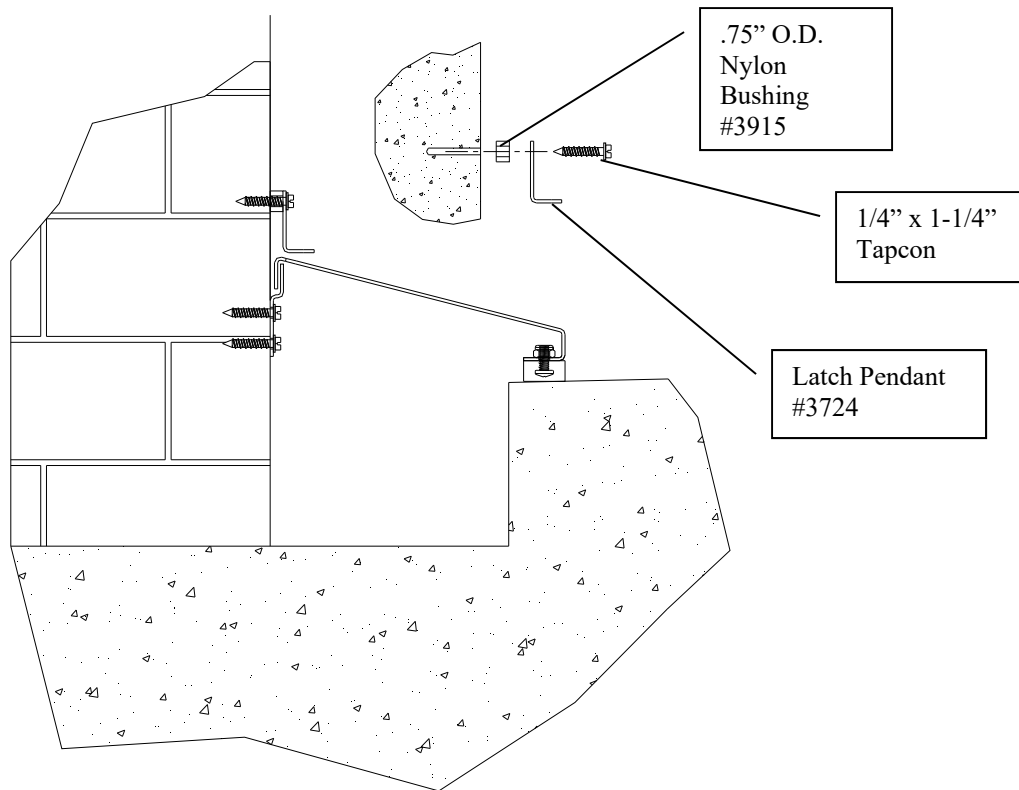

Figure 7.
- Using a 3/16" drill bit, drill (2) holes at least 1-1/4" deep through the marks made in Step 6.
- Attach the pendants to the wall using 1/4" x 1-1/4" hex head Tapcon screws (supplied) through the mounting holes in the pendants. Tighten the fasteners until the pendants can be rotated by hand and stay in the unlocked position without being held. Do not over tighten. See figure 7.